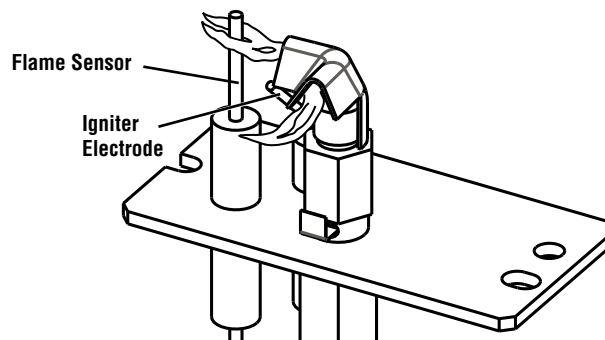

Figure 38 - Proper Pilot Flame Appearance
- ☐ Periodically inspect the pilot system for proper flame. Turn the pilot ON/Auto switch to the ON position. Ensure the igniter lights the pilot. The pilot flame should engulf the flame sensor as shown in **Figure 38**. See *Intermittent/Standing Pilot Mode* on **Page 24** for instructions on switching from intermittent ignition to a standing pilot.